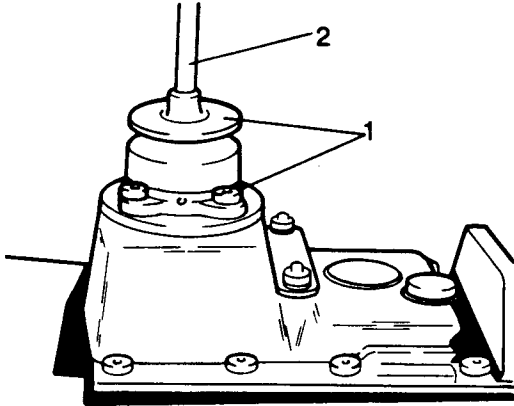

Fig H1.17
(2) Refer to Fig H1.17. Remove the gear lever dust cover and fixings (1).
(3) Remove the gear lever (2) together with its support bracket.